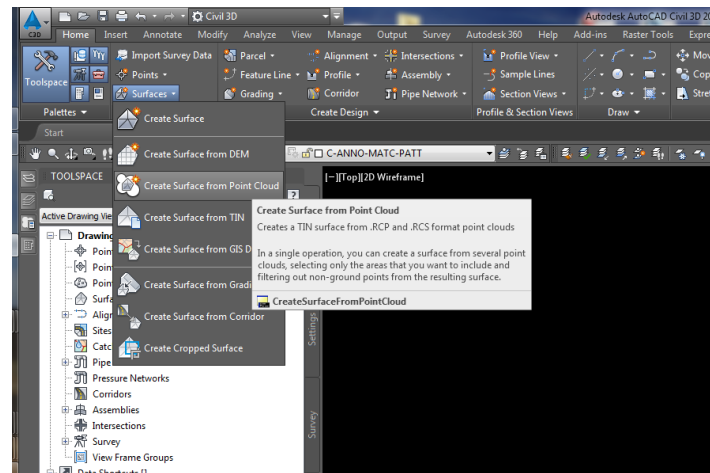

Figure 12: Create Surface from Point Cloud
- Go to the “Home” tab (Figure 12)